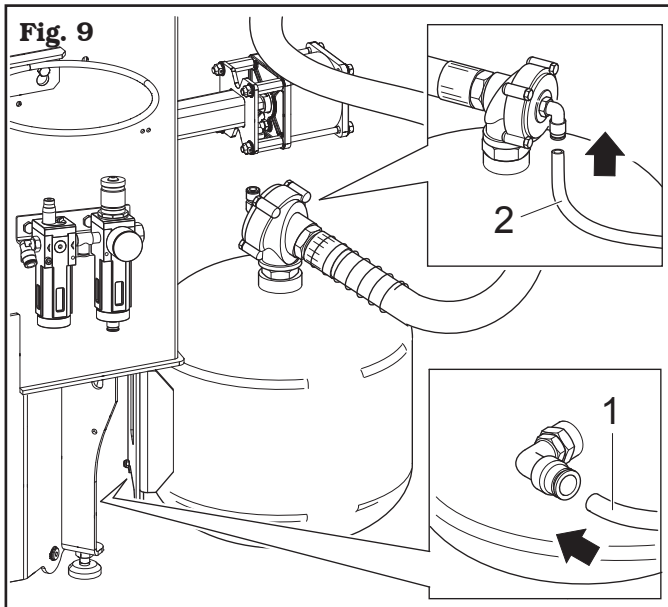

Fig. 9
2. Connect the black pipe (Fig. 9 ref. 1) and the blue pipe (Fig. 9 ref. 2) on the provided quick couplings as shown in Figure 9.